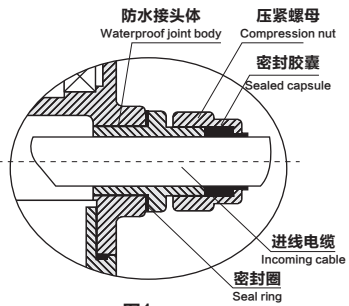

图1
如图1所示, 旋下防水接头的压紧螺母, 将进线电缆从密封胶塞, 压紧螺母, 防爆接头体内穿入电动执行结构内部。根据控制电路图进行接线。
- as shown in Figure 1, unscrew the compression nut of the waterproof joint and thread the incoming cable into the electric actuator from the sealant plug, compression nut and explosion-proof joint